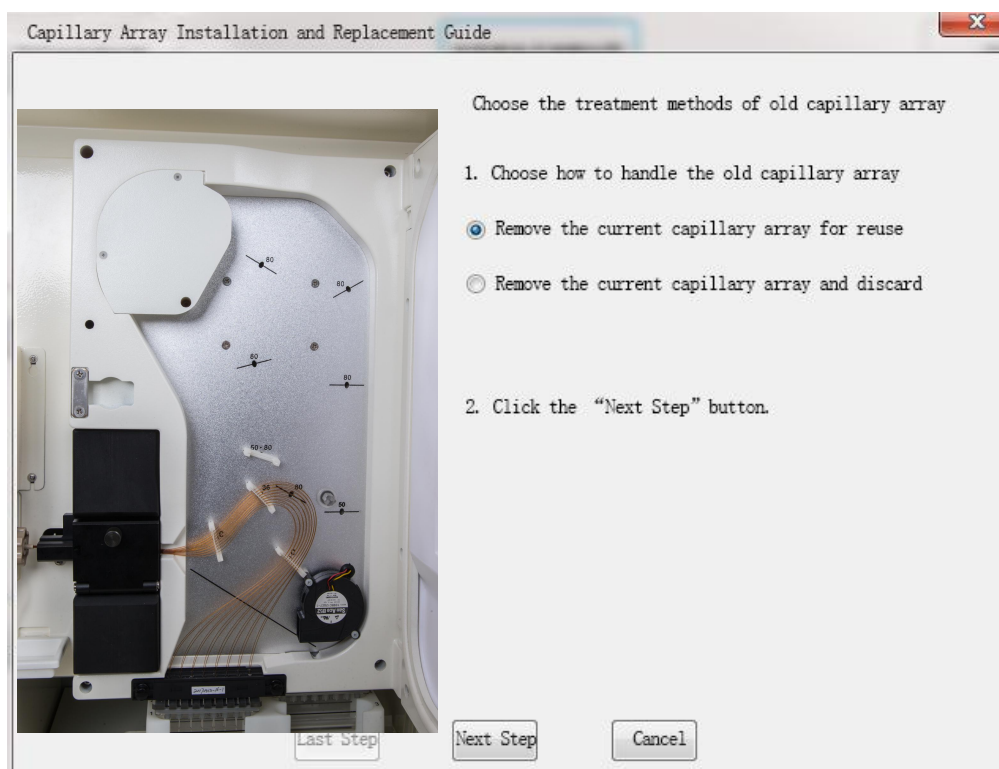

Figure 4. Capillary Array Installation and Replacement Guide
2. Follow the instruction in the guide and select the processing method of capillary array according to the actual situation. “Remove the current capillary for reuse” or “Remove the current capillary and discard”, and then click the “Next” button, as shown in Figure 4.